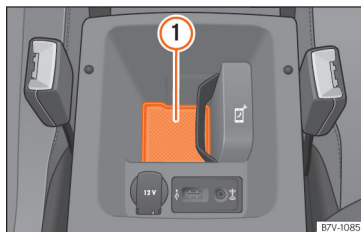

Fig. 232 The phone holder used for connecting the mobile phone to the car aerial is located in the front centre armrest.
For the connection to the aerial of the vehicle, the mobile phone must be on the lodging surface » **Fig. 232 ①**.